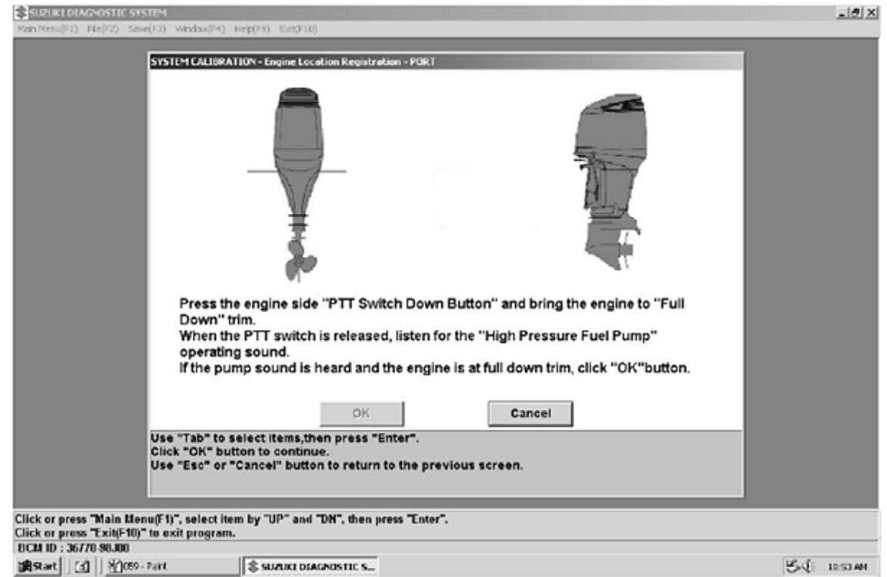

Figure 6-12. Registering the engine position
4. The wizard will then guide you to trim each engine down in turn in order to register their position in the boat control module (BCM). Follow the on-screen instructions. An example is shown in Figure 6-12.